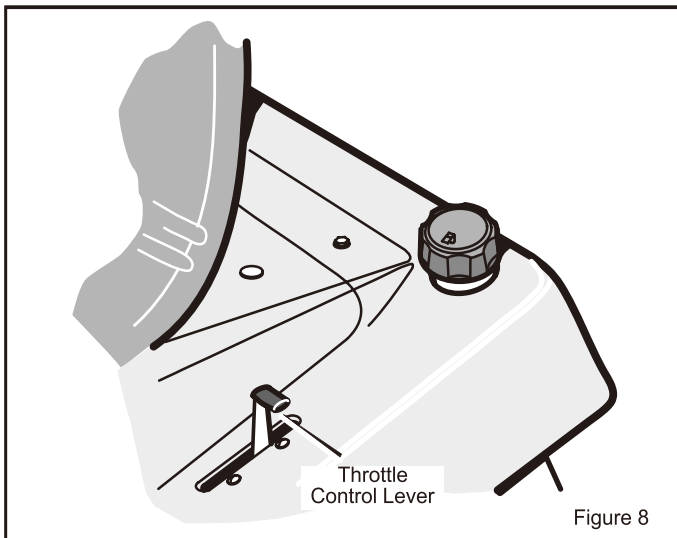

Figure 8
2. Move the **throttle control lever** to the SLOW position (see Figure 8).